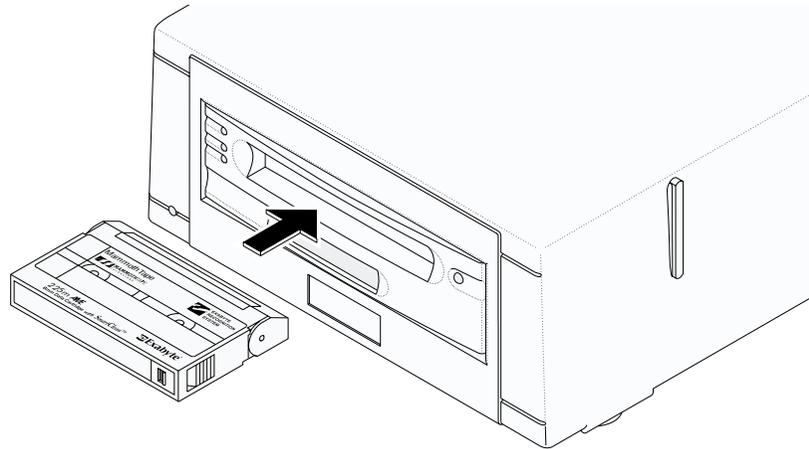

Figure 3-5 Loading a cartridge into the drive
3. Insert the cartridge into the tape drive as shown in Figure 3-5.